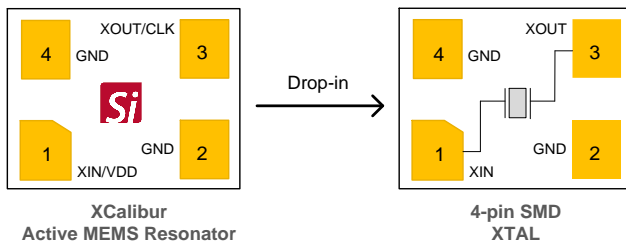

Figure 20. XCalibur Active MEMS Resonator compared with 4-Pin SMD XTAL (TOP View)
- Figure 20 shows a comparison of the XCalibur footprint compared to a 4-pin resonator.